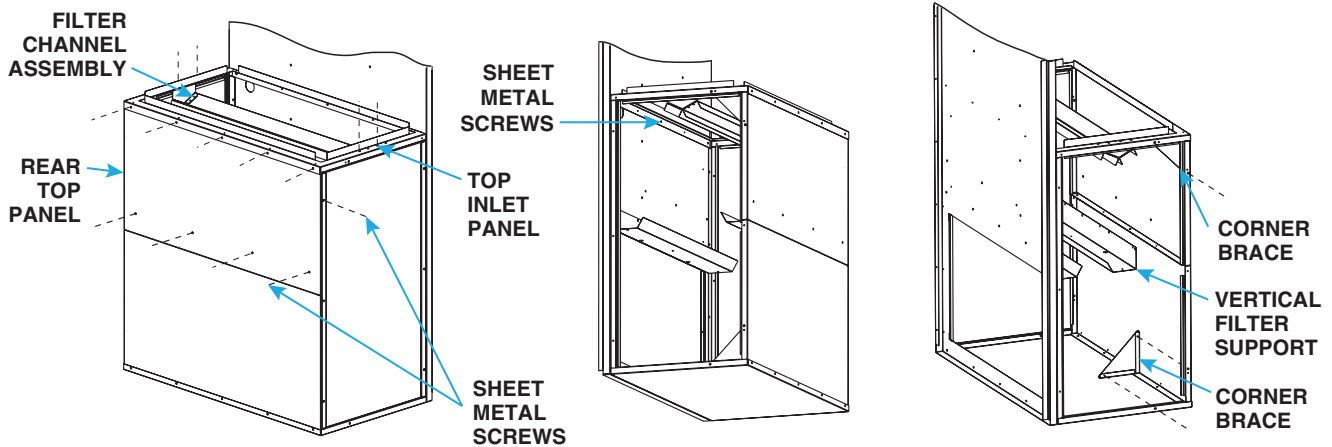

Figure 14. Install Vertical Inlet Filter Cabinet on Heater
3. Install rear top panel, top inlet panel, filter channel assembly, and corner braces and secure filter cabinet to heater cabinet as shown in **Figure 14**: